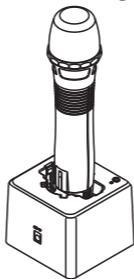
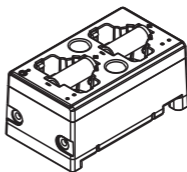

Fig. 22: Handheld transmitter charging in MP-8
Fig. 24: 18500
1. Transmitter(s) can be recharged by docking into a MP-8 or MP-80 charger, Fig. 22 and 23. Or charge up to two 18500 batteries in MP-80, Fig. 24.
2. MP-8 Single-slot Docking Charger, Fig. 22.